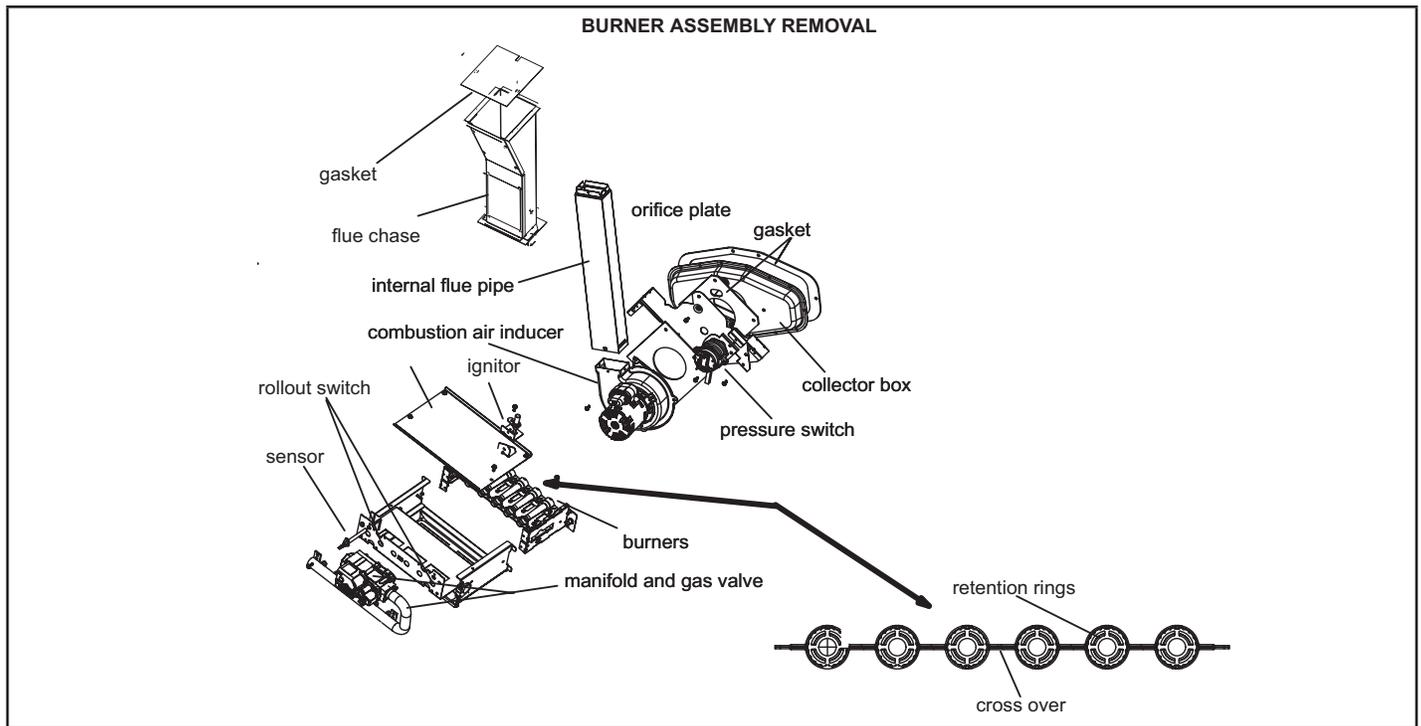

FIGURE 25
- 5 - To clean burners, run a vacuum cleaner with a soft brush attachment over the face of burners. Visually inspect inside the burners and crossovers for any blockage caused by foreign matter. Remove any blockage. Figure 25 shows burner detail.